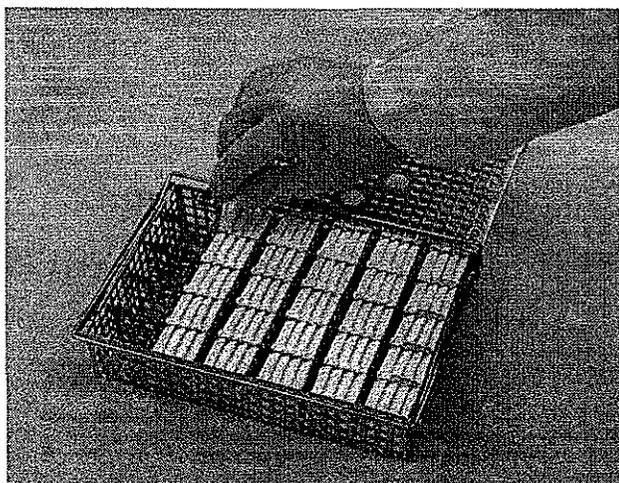

Figure 4-1
- b. Place the divider into the sample basket, then load the cassettes with the slanted end up (Figure 4-1). Each partition holds up to ten cassettes. Cover the basket with the basket lid. Fill the other baskets if applicable.